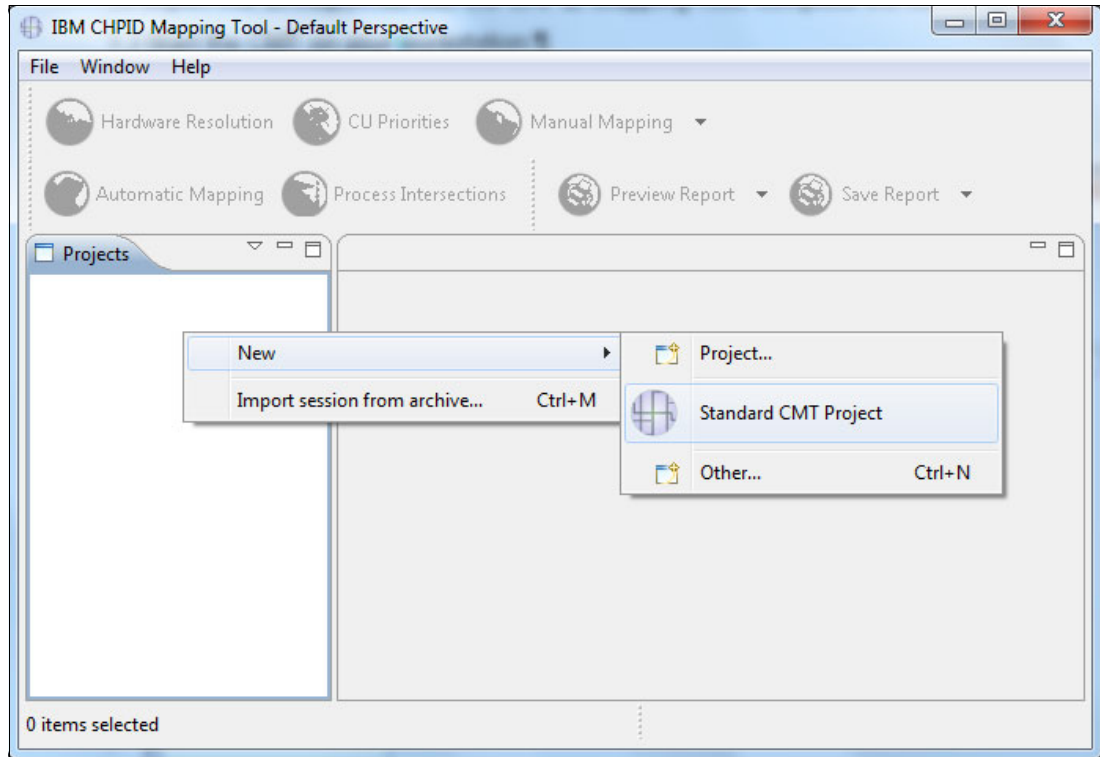

Figure 8-51 CMT - Creating a new CHPID Mapping Tool Project
2. Right-click the Projects pane and select **New** → **Standard CMT Project** (Figure 8-51).